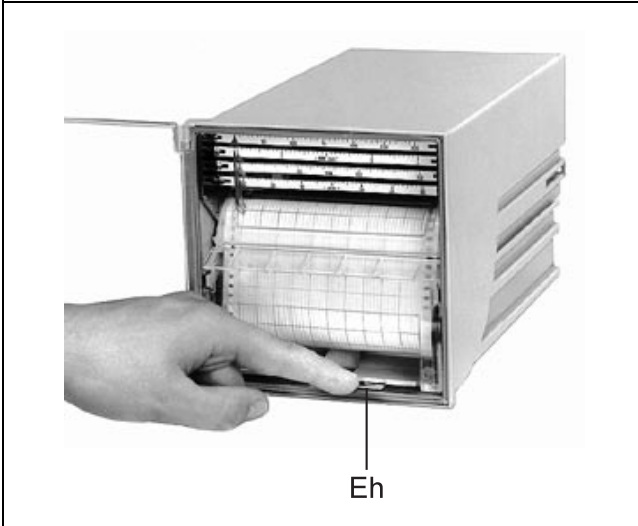

Fig. 1 Unlocking the chart unit
1. Unlock the chart unit: Press unlocking lever *Eh* (see fig. 1).